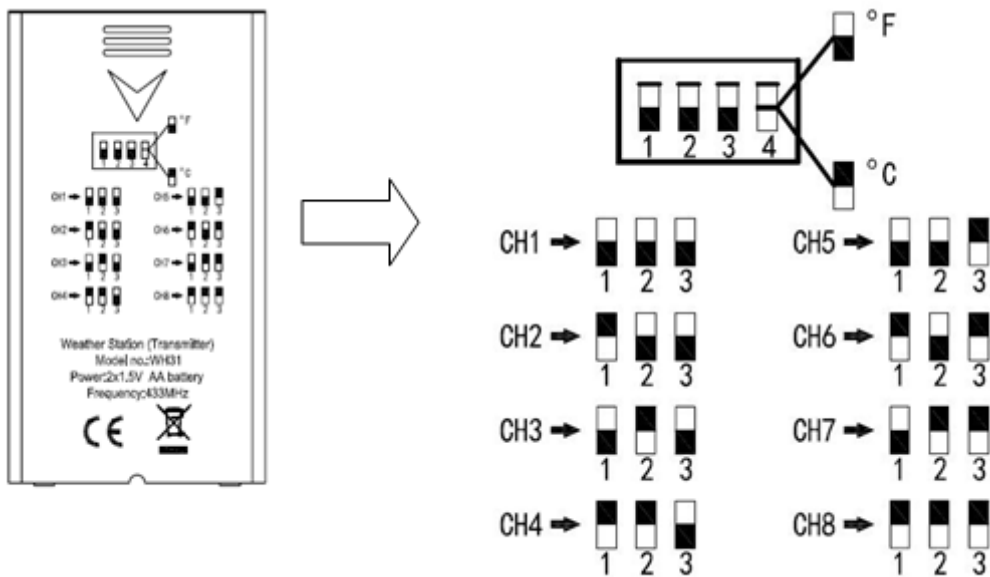

Figure 13
3. **Channel Number:** The WS-2000 supports up to eight transmitters. To set each channel number (the default is Channel 1), change Dip Switches 1, 2 and 3, as referenced in Figure 13.
4. **Temperature Units of Measure:** To change the transmitter display units of measure (°F vs. °C), change Dip Switch 4, as referenced in Figure 13.
3. **Channel Number:** The WS-2000 and WS-5000 supports up to eight transmitters. To set each channel number (the default is Channel 1), change Dip Switches 1, 2 and 3, as referenced in Figure 13.
4. **Temperature Units of Measure:** To change the transmitter display units of measure ($^{\circ}\text{F}$ vs. $^{\circ}\text{C}$), change Dip Switch 4, as referenced in Figure 13.